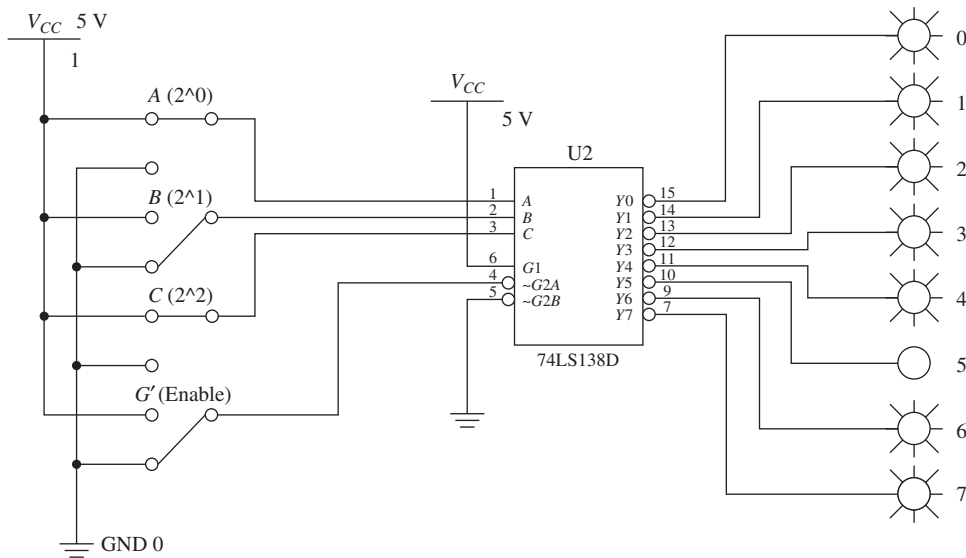

Figure 14 Simulation of the 74138 octal decoder using input switches and output LEDs.
Figure 14 shows the MultiSIM® software simulation of the 74138 octal decoder. LED displays were added on the outputs to indicate their logic levels. (Because the outputs are active-LOW, the selected output is signified by the LED that is OFF.) The enable inputs use the letter *G* instead of *E* and
- Turn on the power simulation switch to perform the simulation shown in Figure 14.